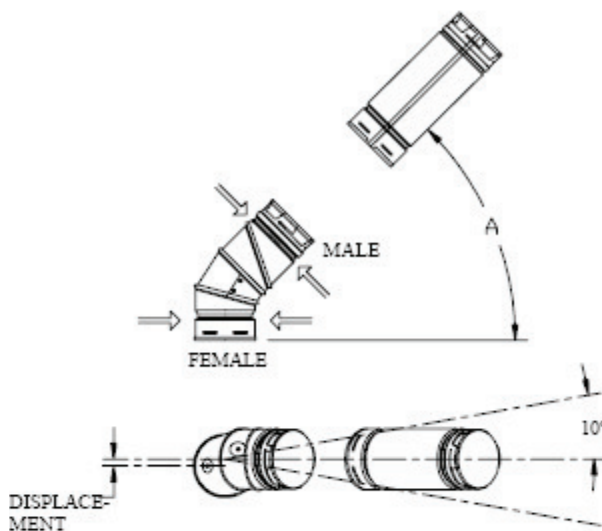

Fig 21
4. **45° Offsets with 90° Elbows.** Figure 21 shows a **90° Adjustable Elbow** being utilized to accomplish a 45° offset. This **Elbow** is completely adjustable from 0° to 90°. Please note that the centers of the upper sections tend to displace by a slight amount, as they are rotated. Again, screws (not longer than 1/4") may be used to secure the joint. **Wall Straps** should also be utilized to enhance the stability of the vent system.